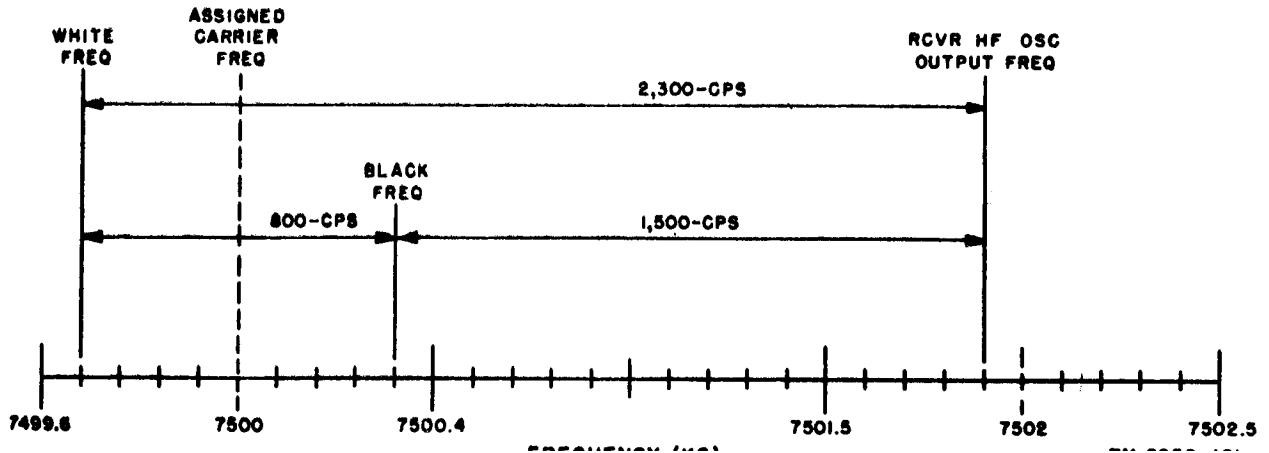

Figure 29. Receiver rf relationships during reception of frequency-shift facsimile transmissions.
Unit O-5B/FR. The output of the exciter unit is a frequency-shift rf signal which shifts above and below a center frequency by an amount proportional to the varying dc signal produced by rectification of the 1,800-cps signal. This serves as the rf excitation for the cw transmitter. The transmitter output is a frequency-shift signal, shifting a total of 800 cycles between picture white and picture black; 400 cycles above and 400 cycles below the assigned carrier frequency (a total of 1,200 cps,  $\pm 600$  cycles under the old shift limits) (fig. 29). Frequency-shift transmissions are advantageous because they are affected less by fading and interference than transmissions using conventional am and, in addition, the rf channel width required is less than when using am SCFM.
*b. Receiving.* When receiving frequency-shift facsimile signals, a conventional communication receiver that has a crystal-controlled temperature compensated hf oscillator and a stabilized beat-frequency oscillator should be used. Radio Receiver R-390/URR or Radio Receivers BC-779, BC-794, and BC-1004 modified in accordance with MWO SIG 11-866-4, Modification of Radio Receivers BC-779-(\*), BC-794-(\*), and BC-1004-(\*), to provide for improved stability of the high frequency oscillator circuit, are suitable in this application. However, a conventional receiver may be used to pick up the frequency-shift radio signal with a stable rf signal applied to its input from Frequency Meter BC-221. Therefore, the beat-frequency oscillator will not be required. In both methods, the incoming signal is heterodyned with the local oscillator signal to produce an output in the af range swinging from 1,500 to 2,300 cps or from 1,800 to 3,000 cps, depending on which shift limit is used (fig. 29). These fm voice-frequency signals are applied to the input of Converter CV-2C/TX which converts them into am af signals which are fed into the input of the receiving facsimile transceiver.
*c. Receiving* (fig. 29). The receiving station must be adjusted so that the highest received frequency is interpreted as a maximum amplitude signal at the receiving facsimile transceiver, and the lowest received frequency is interpreted as a minimum amplitude signal at the receiving facsimile transceiver. To obtain this desired relationship, the output of the receiver hf oscillator must be on the hf side of the received rf signal. This will produce an af beat note (2,300 cps) at the receiver output when the received rf signal is at its lowest frequency, and a low-frequency beat note (1,500 cps) at the output of the receiver when the received rf signal is at its highest frequency. The received carrier frequencies are the same as those assumed for the transmitting station, and